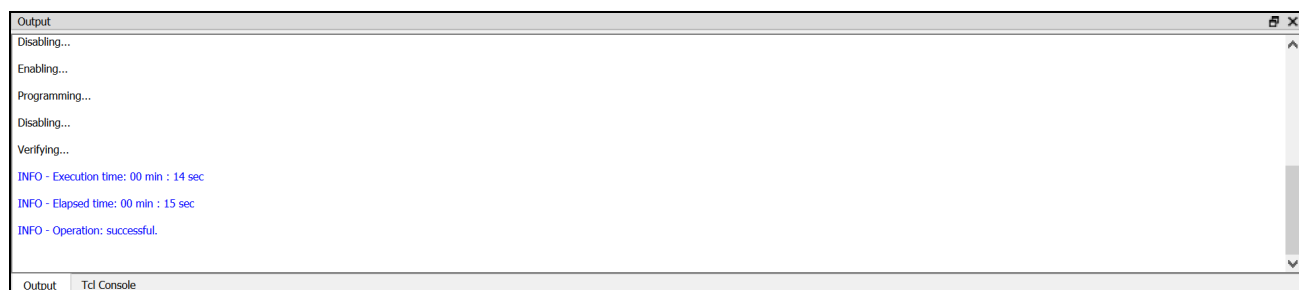

Figure 4.10. Radiant Programmer – Output Console
8. Successful programming is displayed in the Diamond Programmer Output console as shown in Figure 4.10.